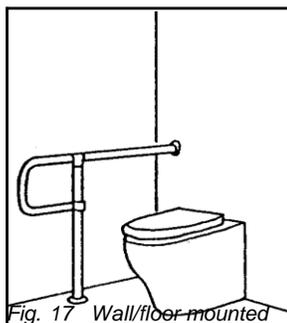

Fig. 17 Wall/floor mounted
- Wall/floor mounted (Fig. 17)